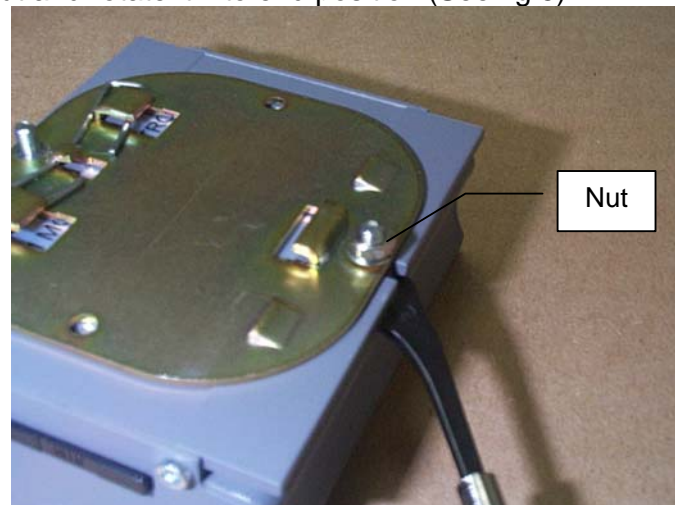

Fig.5
5) Insert the nut and rotate it into end position (See fig.5)